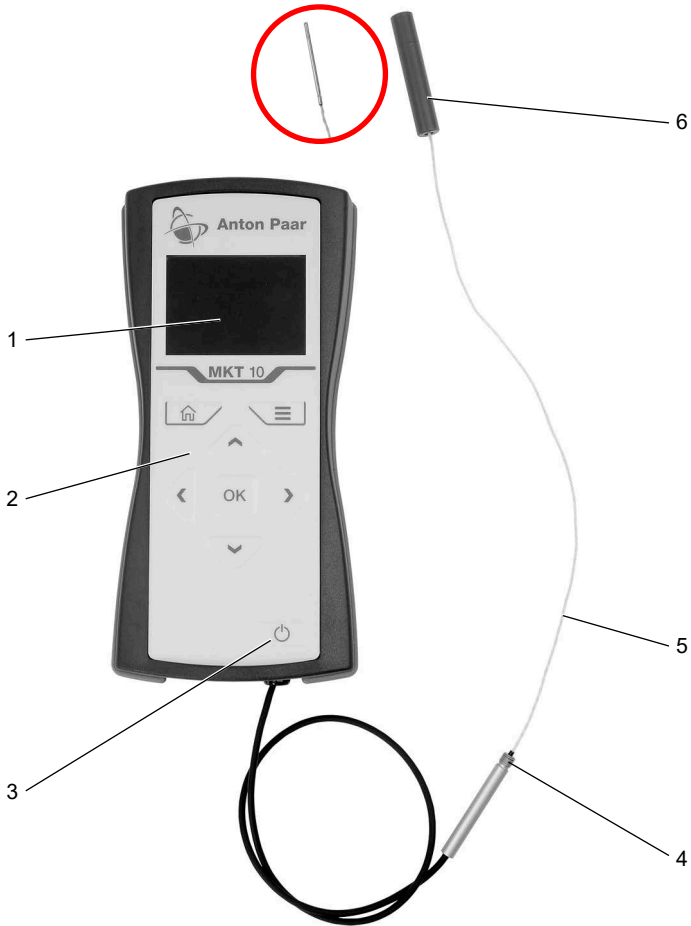

Fig. 1: Front view of the instrument
- To switch the instrument **on**, press the <On/Off> key, see fig. 1.